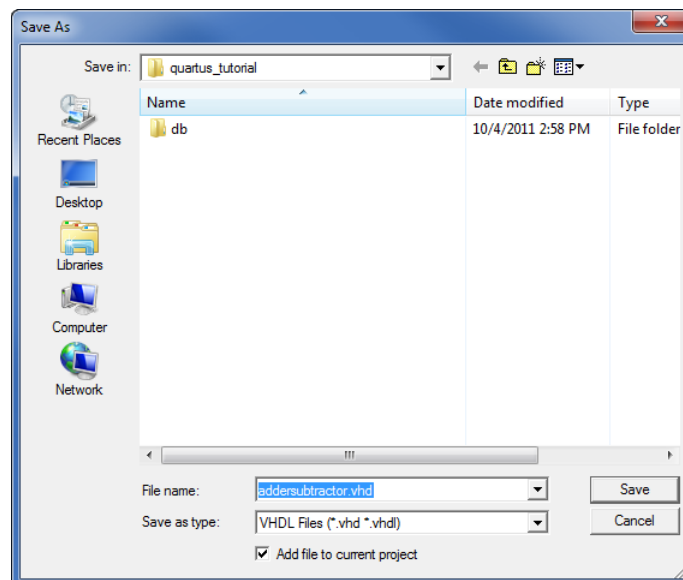
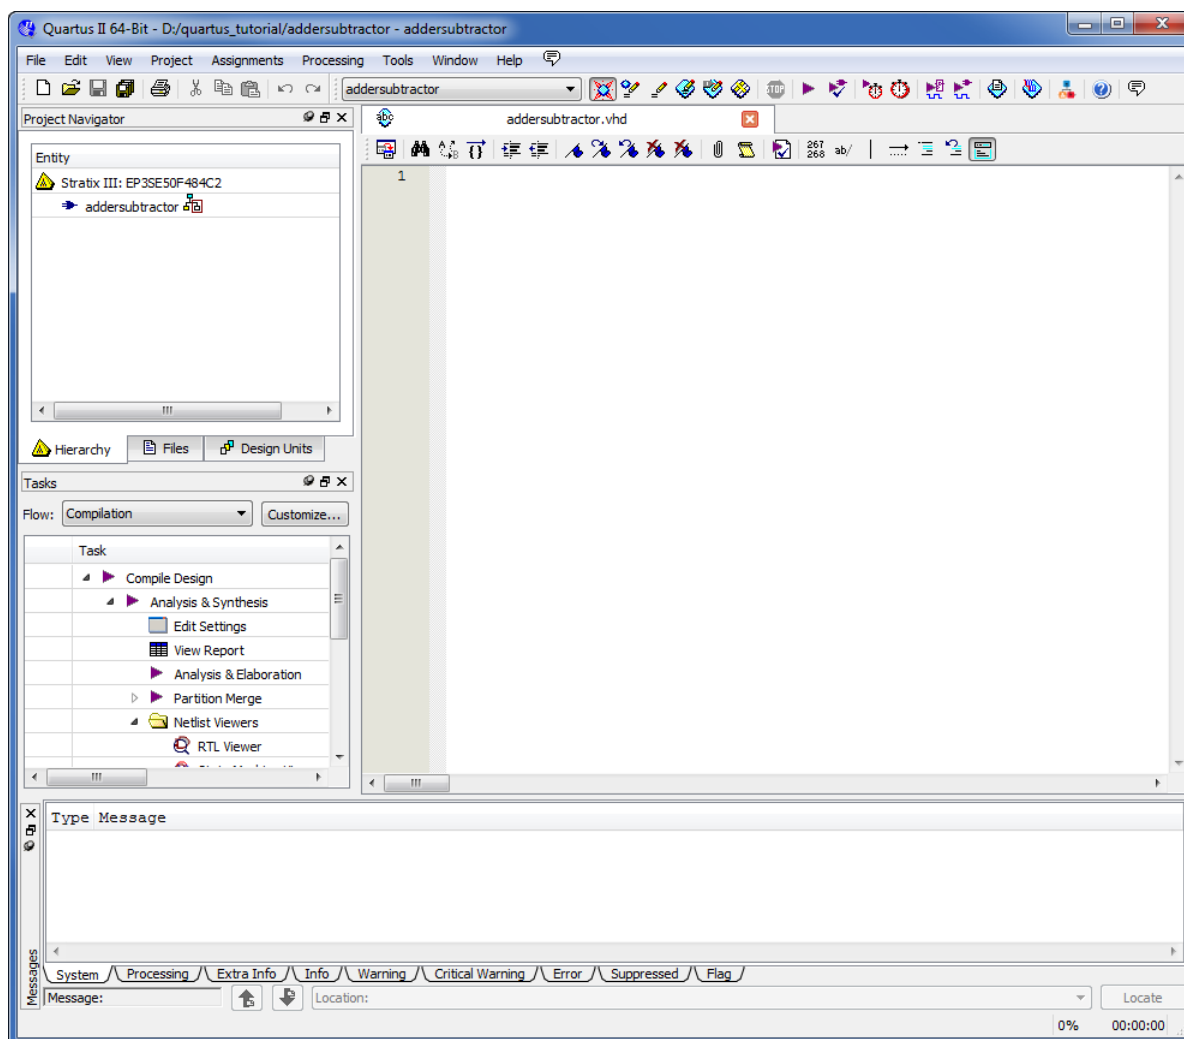

Figure 14: Name the file.
Figure 15: Text Editor window.
2. The first step is to specify a name for the file that will be created. Select File > Save As to open the pop-up box shown in Figure 14. In the field labeled Save as type choose VHDL File. In the field labeled File name type *addersubtractor*. Put a checkmark in the box Add file to current project. Click Save, which puts the file into the directory *quartus_tutorial* and leads to the Text Editor window shown in Figure 15.